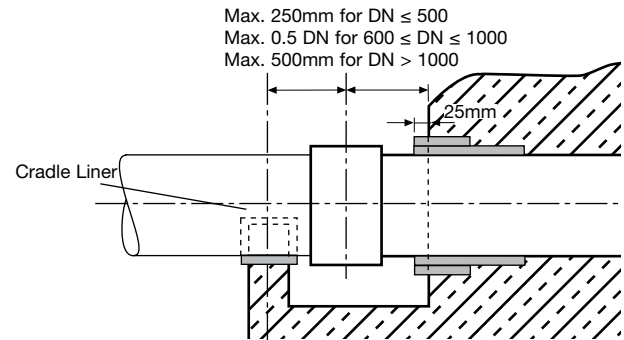
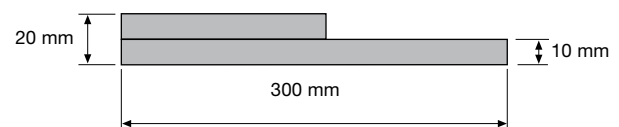

Figure 6-4 Alternate B: Rubber wraps
Figure 6-5 Rubber wrap configuration – Rubber shall be 50 Durometer
Where A is not possible, wrap (**Figure 6-4**) a band (or bands) of rubber (**Table 6-1 and Figure 6-5**) around the pipe prior to placement of any concrete such that the rubber slightly protrudes (25mm) from the concrete. Lay out the pipeline so the first completely exposed coupling joint is located as shown in **Figure 6-4**. Precautions must be taken to minimize the settlement of the reinforced concrete structure or pipe by providing an adequate foundation. Differential settlement in the pipe will cause stresses in the pipe and may cause pipe failure.
- 1 Position as shown in **Figures 6-4** and **6-5**.